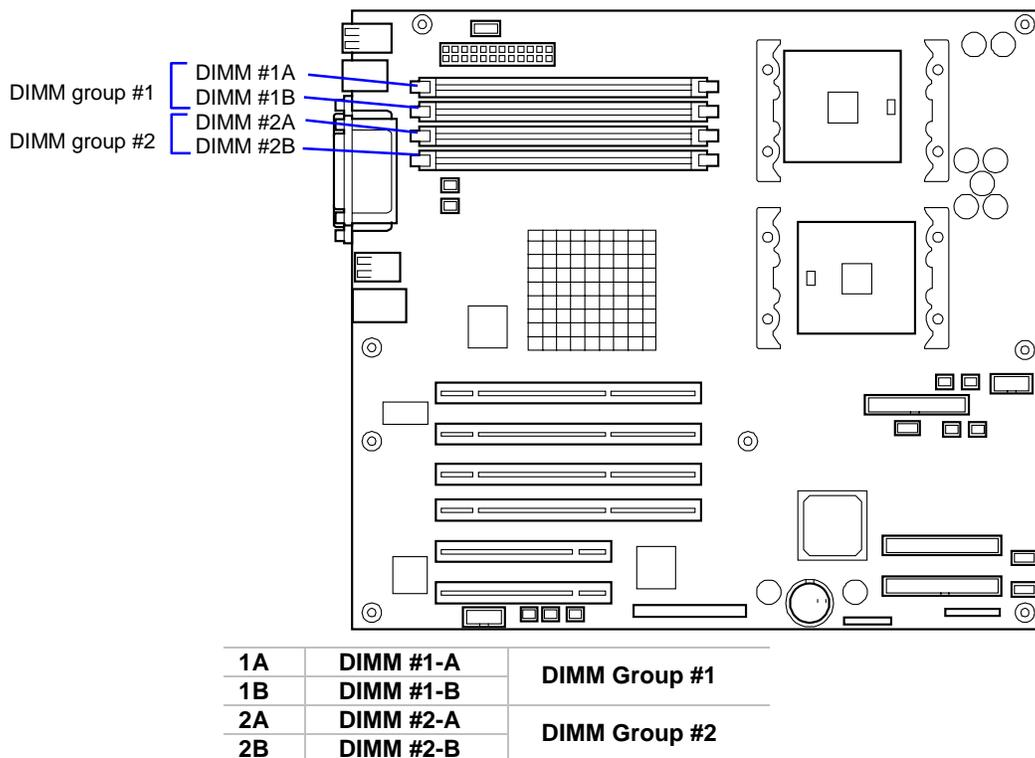

Figure 4-15. DIMM Locations on the System Board
The system board contains four DIMM sockets (Figure 4-15). Each socket can hold a single 72-bit DIMM module with 256MB, 512MB, or 1GB of memory. When all four sockets are populated, the system board supports a maximum of 4 GB of memory with 1GB DIMMs.
9. Locate the appropriate DIMM sockets on the system board (see Figure 4-15).